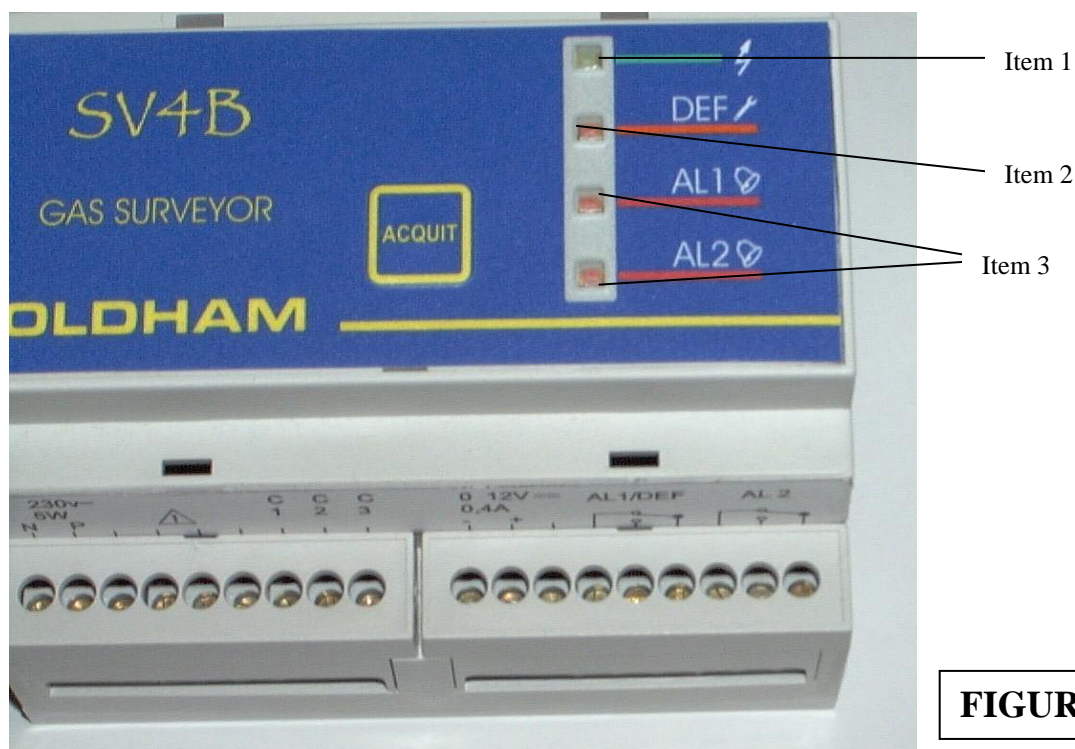

FIGURE 6
As soon as the SV 4B is supplied with power, it is ready to use and the GREEN light-emitting diode lights up (item 1, Fig. 6).
Therefore, the red light-emitting diodes "AL1" and "AL2" (item 3, Fig. 6) come on as soon as the alarm thresholds are exceeded (time delay of 7 seconds): LED flashing. The audio alarm (buzzer) is activated and the corresponding relays are tripped.
The SV 4B is equipped with a fault alarm (visual alarm (item 2, Fig. 6), audio alarm and relay 1) which is activated in the following cases: